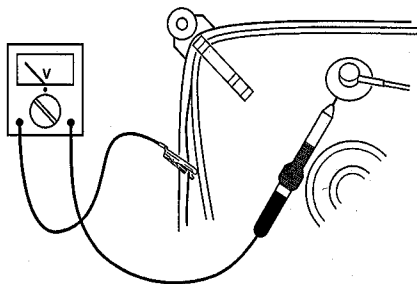

FIG. 9
1. In order to prevent damage to IC's and transistors any flash-over of the EHT should be avoided. To prevent damage to the picture tube the method, indicated in Fig. 9, has to be applied to discharge the picture tube.